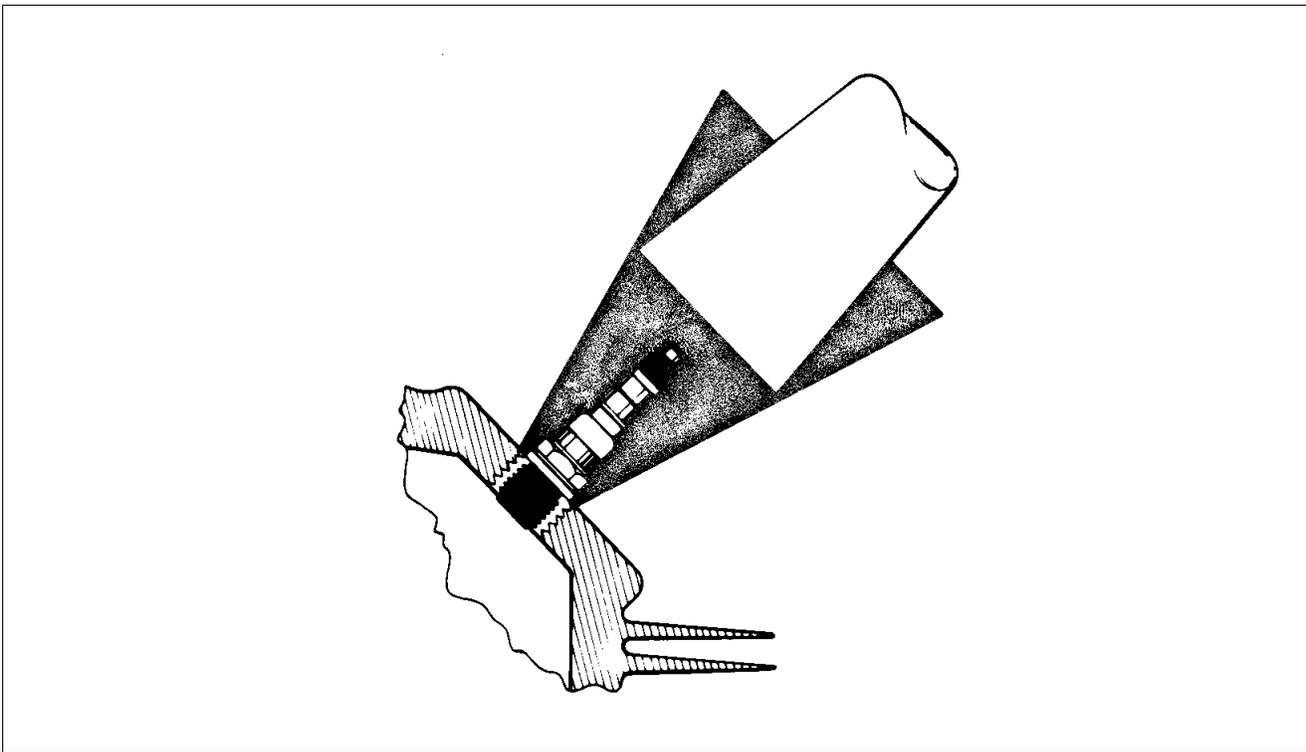

Figure 74-29. Removing Spark Plug Frozen to Bushing
4. Removal of seized spark plugs in cylinder is done by application of liquid carbon dioxide (CO2) by a conical metal funnel adapter with a hole at the apex just large enough to accommodate the funnel of a 20 lb bottle. (Refer to Figure 74-29.) When a seized spark plug cannot be removed by normal means, funnel adapter is placed over and around spark plug. Place funnel of CO2 bottle inside funnel adapter and release carbon dioxide to chill and contract spark plug. Break spark plug loose with a wrench. A warm cylinder head at the time carbon dioxide is applied will aid in removal of excessively seized plug.